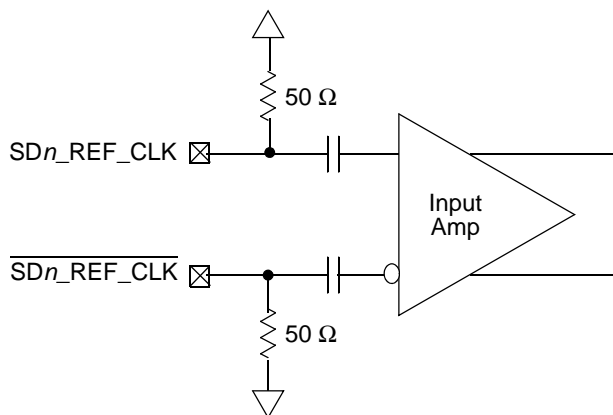

Figure 44. Receiver of SerDes Reference Clocks
Figure 44 shows a receiver reference diagram of the SerDes reference clocks. Characteristics are as follows:
- The  $SDn\_REF\_CLK$  and  $\overline{SDn\_REF\_CLK}$  are internally AC-coupled differential inputs as shown in Figure 44. Each differential clock input ( $SDn\_REF\_CLK$  or  $\overline{SDn\_REF\_CLK}$ ) has on-chip  $50\text{-}\Omega$  termination to  $SGND\_SRDSn$  ( $xcorevss$ ) followed by on-chip AC-coupling.